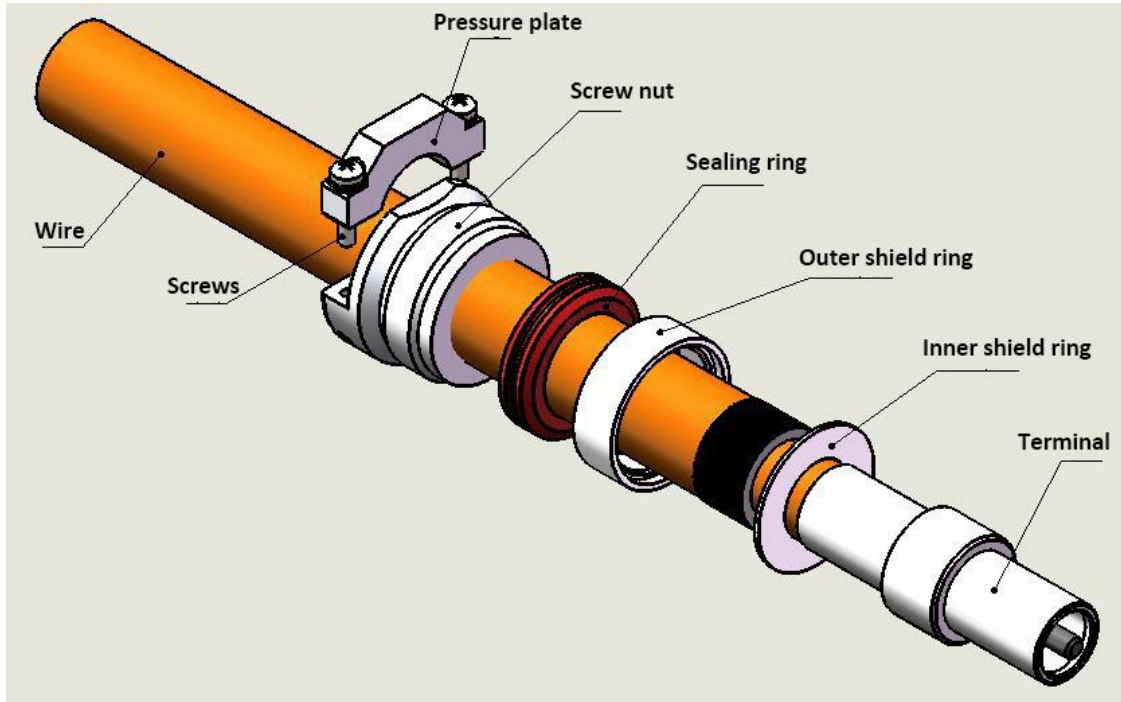

Figure 3
3.1.1 Remove the connector and place the parts in the product on the cable in turn according to Fig.3.